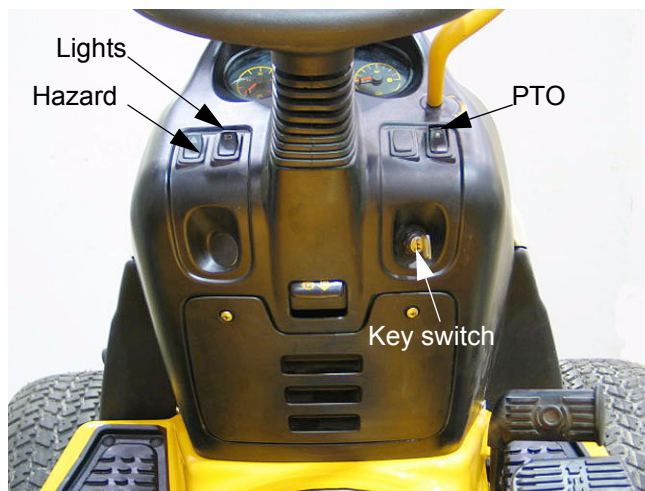

Figure 2.7
2.7. Located on the dash panel are the hazard flasher switch, light switch, PTO switch, Key switch, and instrument panel. See Figure 2.7.